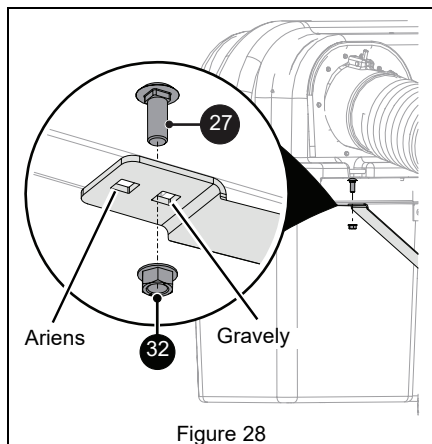

Figure 28
2. Mount upper end of support strap to hood assembly using one 3/8" x 1" round head square neck bolt (item 27) and one 3/8" locking top flange nut (item 32). Ensure hardware is installed in correct hole. See Figure 28.